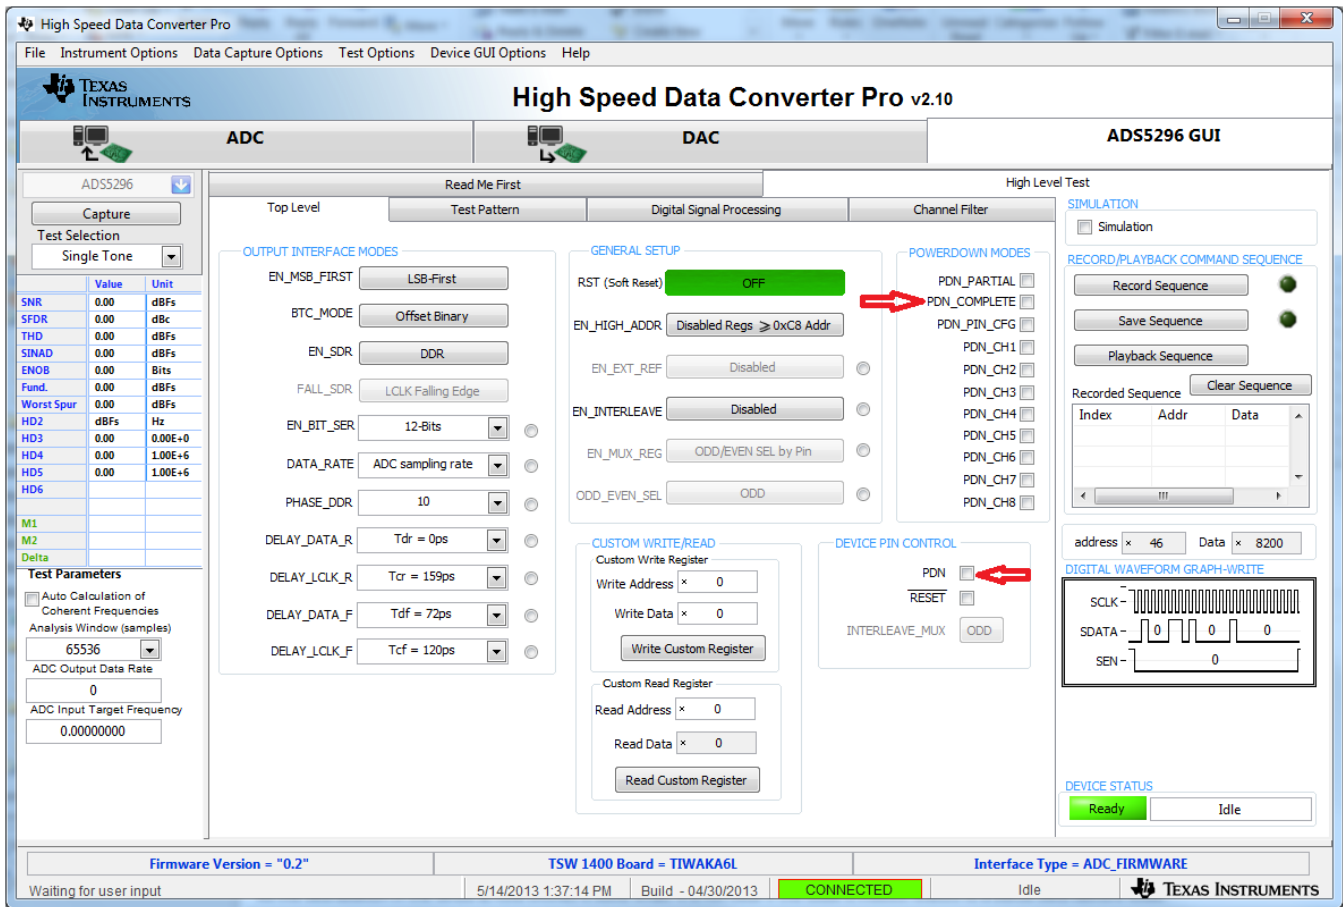

Figure 30. ADS5296 Plug-in GUI Setup (c)
Clicking on the *High Level Test* tab shows four sub-tabs: *Top Level*, *Test Pattern*, *Digital Signal Processing*, and *Channel Filter* as shown in Figure 30.
- Verify that communication between the ADS5296 EVM and the ADS5296 GUI is established by toggling either **PDN_COMPLETE** checkbox or the **PDN** checkbox highlighted on Figure 30. Checking either box should make +5-V power supply current drop from ~850 mA to ~563 mA. If the DC current is not approximately 600 mA with both power down boxes unchecked, it indicates that the ADS5296 is not receiving the sampling clock. Please ensure that the 3-pin headers are configured as described in Section 3.2. Before continuing, ensure that both power down boxes are left unchecked. At this point, the GUI is confirmed to be communicating correctly with the EVM and testing can begin.